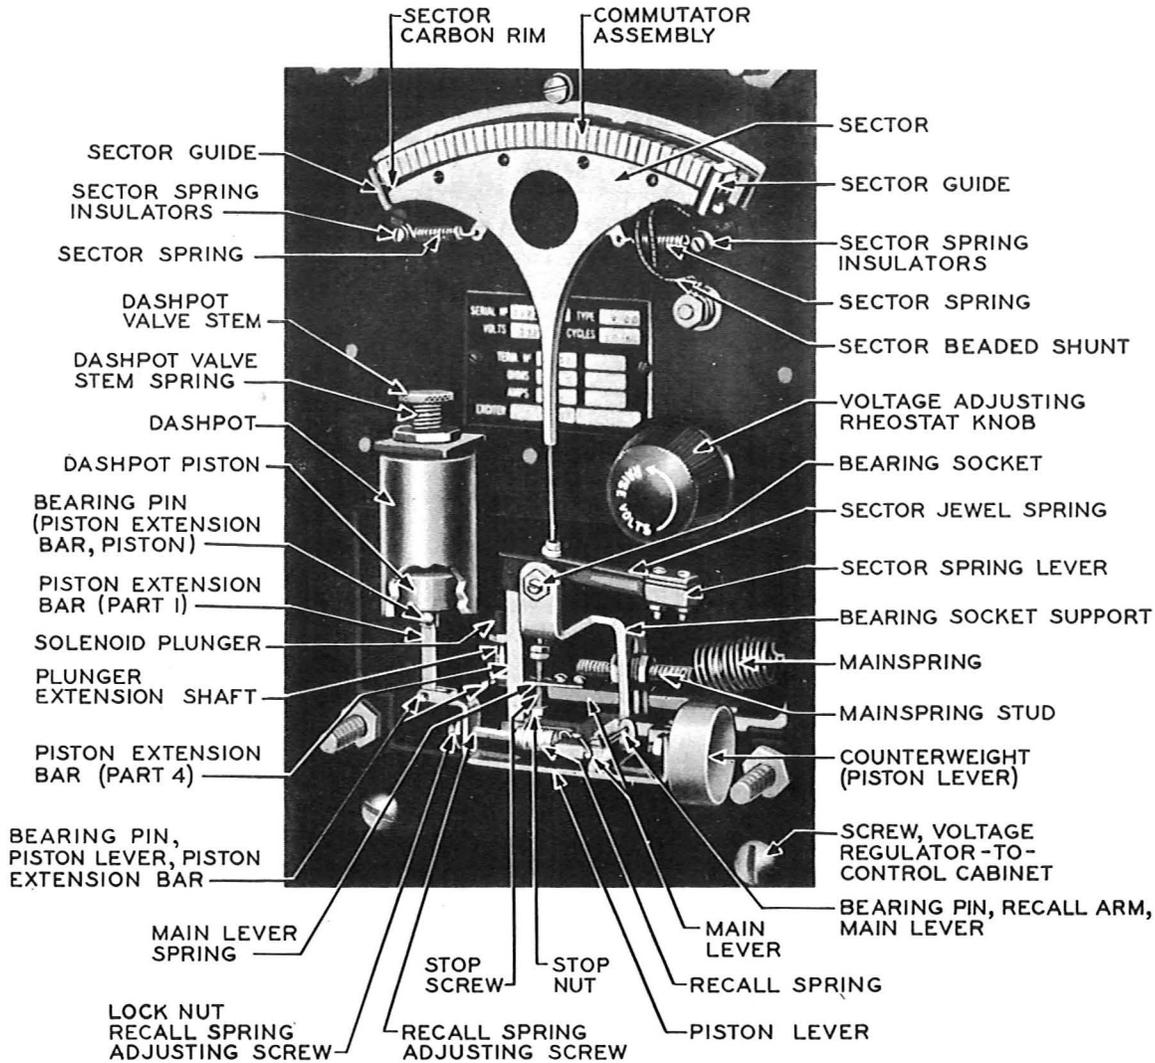

Fig. 17 - Allis-Chalmers Type V-00 Voltage Regulator With Front Cover Removed
(1) The alternator output voltage is automatically controlled during normal operation by means of a voltage regulator, of the Allis-Chalmers V-00 type. (See Fig. 17.) To determine the alternator voltage, use may be made of the a-c voltmeter on the control panel. If the voltage is not within the proper limits,
on the rear of the voltage regulator, is controlled by the voltage adjusting rheostat knob from the front of the regulator (see Fig. 17). This rheostat is furnished to set the alternator voltage at any desired value from 208 to 240 volts. This regulator has a 10- to 12-volt rise from cold to hot condition. Therefore, if 240 volts is desired hot (after about a half hour operation, the regulator can be considered hot) set the no load, cold, a-c voltage at 228 to 230 volts. Then as the set operates, the voltage will rise to 240 and remain there.
(4) To take the voltage regulator out of service, while the set is in operation, first remove the front cover of the regulator after removing the rheostat knob. Then turn the MANUAL RHEOSTAT on the instrument panel, (see Fig. 3) which is the exciter field rheostat, slowly clockwise and observe the main lever spring (see Fig. 17) of the voltage regulator, turning the rheostat until the lever drops nearly to the "0" position, and the a-c voltage as indicated on the a-c voltmeter starts to drop. When this position is reached, turn the REGULATOR SWITCH on the instrument panel to its OFF position. Then turn the MANUAL RHEOSTAT counterclockwise slowly, watching the a-c voltmeter until the desired voltage is obtained. The alternator will now be under manual voltage control and any change in alternator load requires voltage correction with the MANUAL RHEOSTAT. The set therefore has to be attended at all times while the rheostat is being used to control the voltage. Clockwise rotation of the rheostat lowers the voltage, while counterclockwise rotation will raise it.
(5) When placing the voltage regulator back in service, always do so under no-load conditions. To put the regulator back in service on an automatic basis again after having it out of service as described in (4), turn the voltage adjusting rheostat to the high voltage position (full counterclockwise), then turn the REGULATOR SWITCH to its ON position. Slowly turn the voltage adjusting rheostat in a clockwise direction until the a-c voltmeter starts to drop. Then turn the MANUAL RHEOSTAT to AUTO and leave it there. This position is the resistance-all-out position. Readjust the voltage adjusting rheostat to the desired voltage.
(6) To clean the regulator commutator and sector thoroughly, remove the sector from the regulator. Wipe the sector carbon rim and the V-groove commutator with a clean dry cloth only. Should dirt stick to the commutator after using the clean cloth, an ordinary pencil eraser may be used. Never use any abrasive, such as emery or crocus cloth. After cleaning
front face of the panel, the centralizing of the sector and the commutator, and the travel of the sector in the commutator. Refer to Figs. 17 and 19,
segments at each end of the commutator. To check these positions, hold a steel scale from the center of the sector shaft through the center of each end segment of the commutator and note that the needle point just comes into line. The position of the stop screw (see Fig. 17) determines this travel. If necessary, loosen the stop nut on the stop screw, and adjust as required to obtain the required setting of sector travel. When obtained, fasten the stop nut on the stop screw to maintain adjustment.